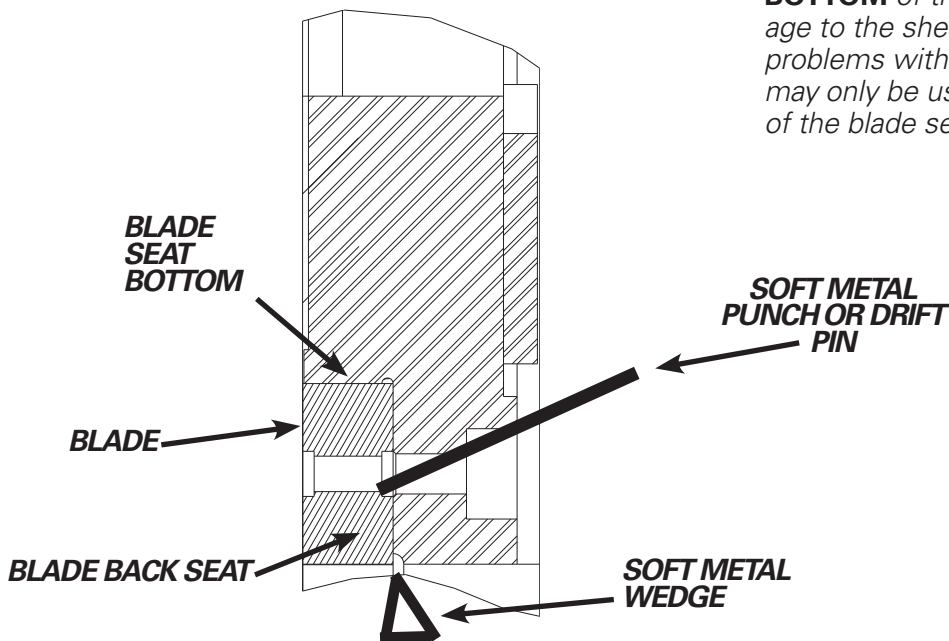

FIGURE 7-35
3. If the blade is jammed in the seat and is difficult to dislodge, take a soft metal punch or drift pin and insert it in a blade bolt hole from the back side (nut side, see Figure 7-35). Place the punch at an angle against the inside countersink of the blade and strike the punch with a hammer or mallet.